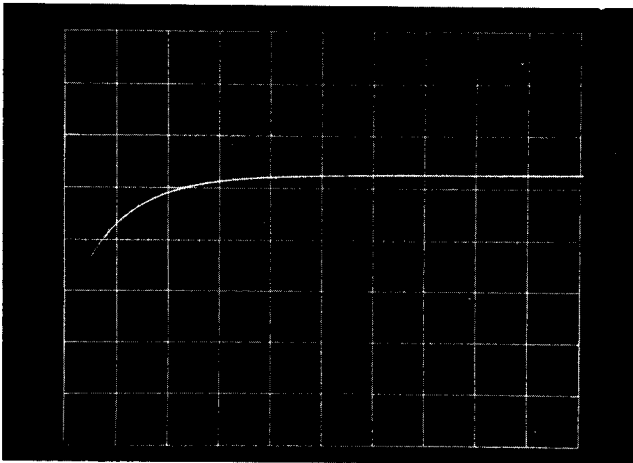

Fig. 2-4. Stored display of calibrator rise using the INTEGRATE button, at $1 \mu\text{sec}/\text{cm}$ sweep rate.
8. Release the INTEGRATE button. A stored trace should be present on the screen (see Fig. 2-4). If not, repeat the demonstration and hold the INTEGRATE button for a few seconds longer.